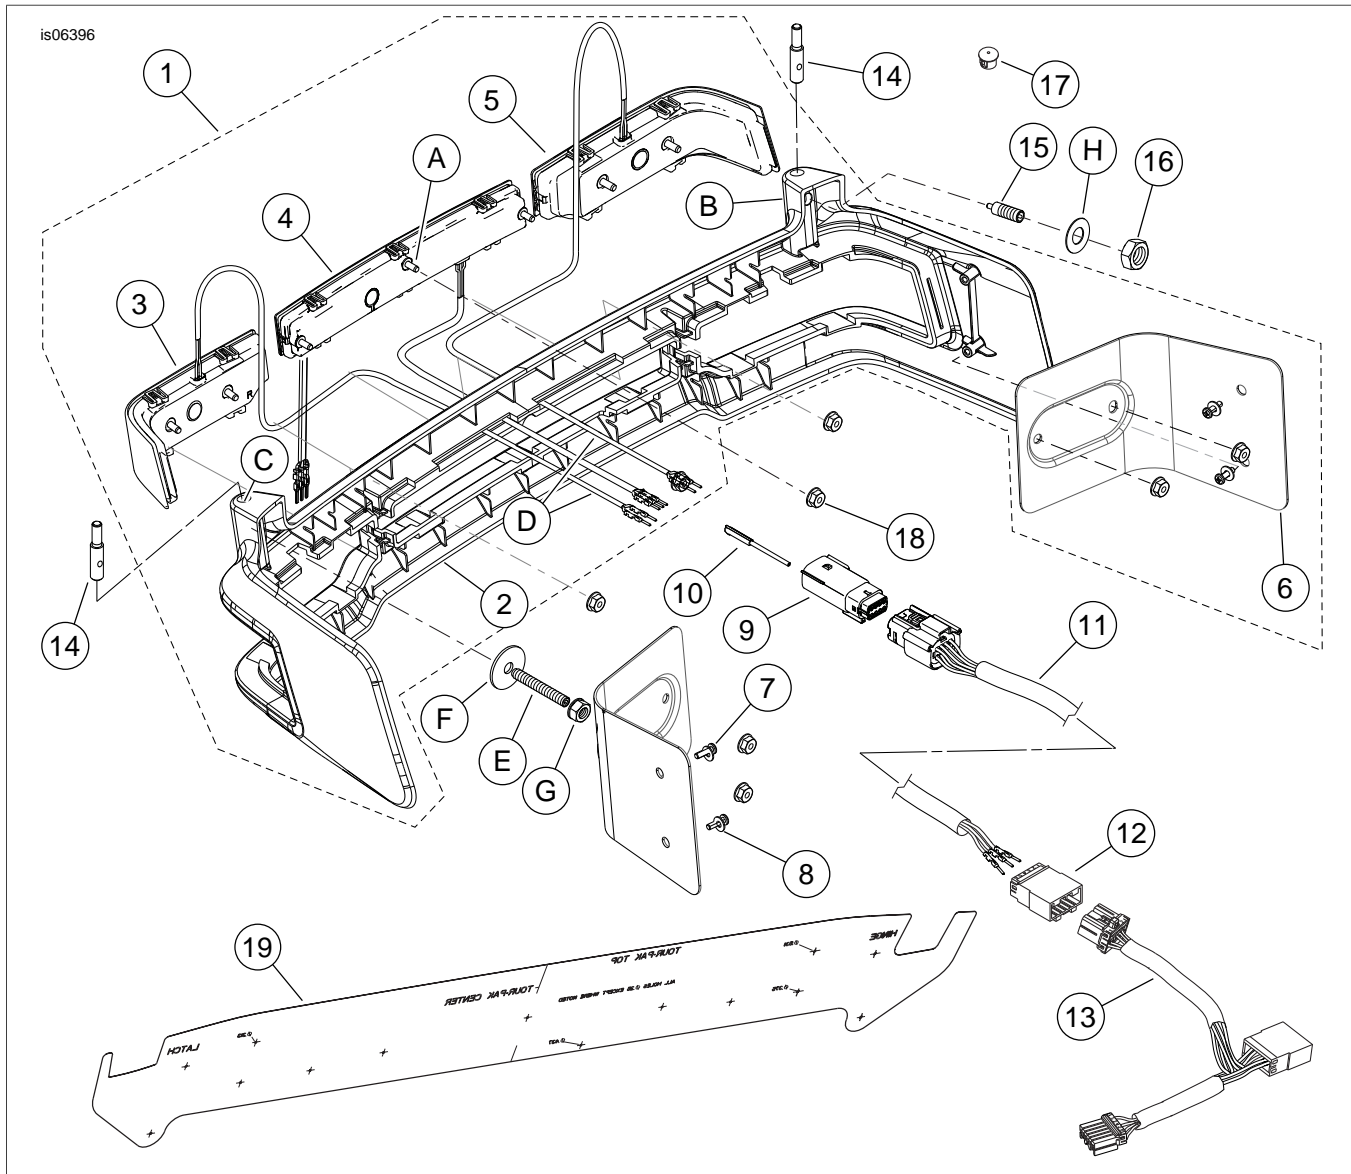

Figure 3. Service Parts, Tour-Pak Wrap-Around LED Light Kits
See Figure 3 and Table 1.
- Position the template (19) from the kit across the rear of the Tour-Pak, aligning the template around the hinge on the left side and the latch on the right. Tape the template securely to the Tour-Pak.
- See Figure 3. Apply a small amount of silicone sealant around the base of the seven threaded studs (A) on the back of the LED Wrap-Around Light assembly (1) to prevent water leakage into the Tour-Pak.